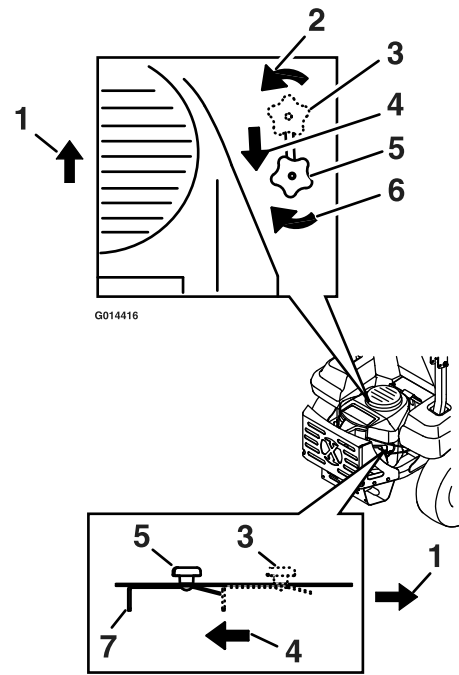

Figure 9
During normal operating conditions, the drive wheel release valves are positioned in front of the slots. If the machine has to be pushed by hand, the valves must be in the “released” position (see Figure 9).
To release the drive system (see item 1 in Figure 9), loosen the knob by turning counterclockwise. Then pull the release lever on the underside of machine towards the back of the machine and retighten the knob to hold the release lever back in the released state. Repeat this on each side of the machine.
To reset the drive system (see item 2 in Figure 9), loosen the knob by turning counterclockwise. Then push the release lever on the underside of machine towards the front of the machine and retighten the knob to hold the release lever in the operating state. Repeat this on each side of the machine.